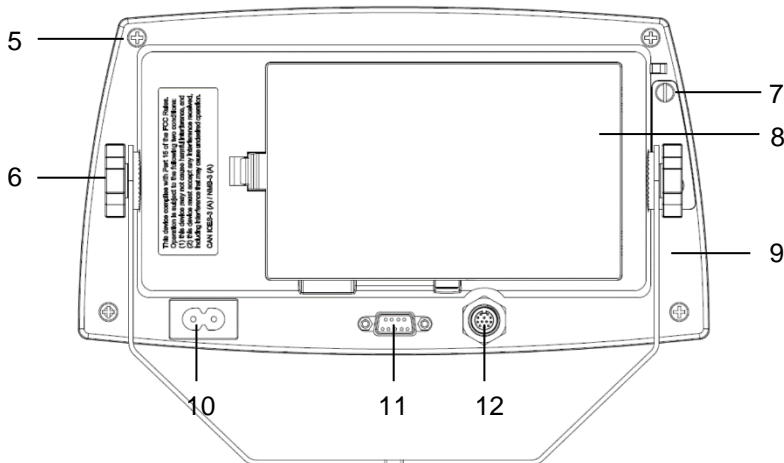

Figure 1-1 TD52P Indicator
OHAUS bases with an EasyConnect™ connector can be attached to the external load cell connector (Figure 1-1, item 12). To make the connection, plug the base connector onto the external load cell connector. Then rotate the base connector's locking ring clockwise. Refer to section 2.3.2 for bases without a connector.
Connect the optional RS232 cable to the RS232 connector (Figure 1-1, item 11).
Connect the AC power cord (supplied) to the power receptacle (Figure 1-1, item 10), then connect the AC plug to an electrical outlet.